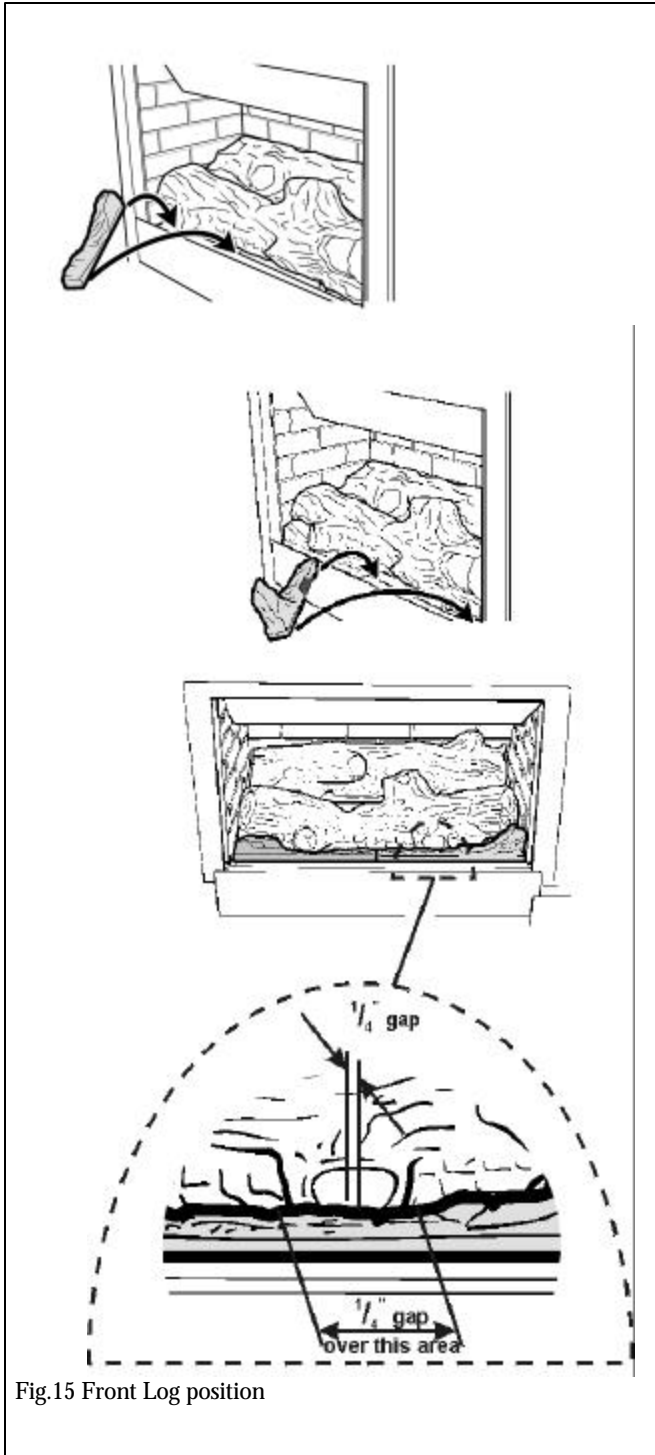

Fig.15 Front Log position
- 12.5** Place the two front logs in position on the front rail of the firebox. It may be necessary to raise the center log slightly in order to fit the left-hand front log. Make sure that there is a gap of approximately $\frac{1}{4}$ " between the front right stump of the center log and the cut-out section at the rear of the right front log. See figure 15.